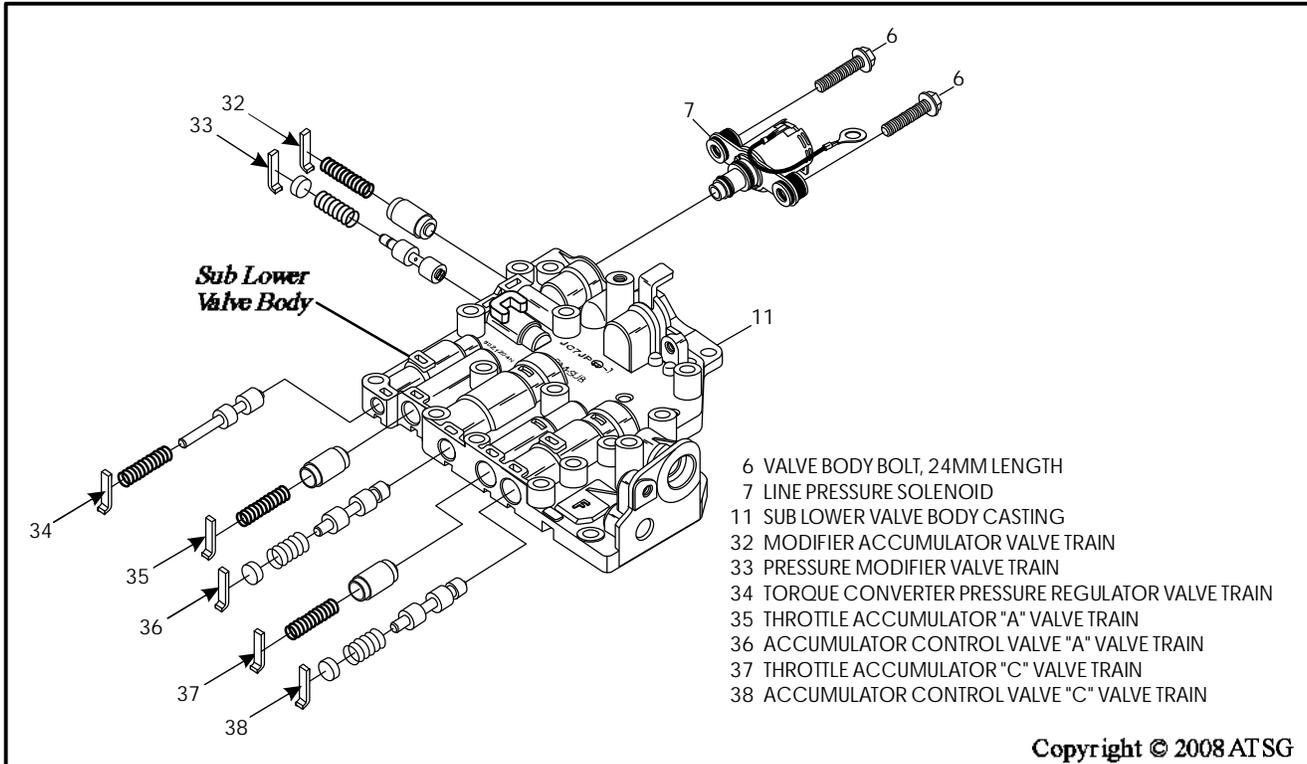

Figure 160
3. Starting with the sub lower valve body, shown in Figure 160, disassemble and place valves, springs, bore plugs and retainers in appropriate trays exactly as they were removed.
5. Assemble sub lower valve body parts **exactly** as shown in Figure 160, and lube with ATF as they are installed.
Note: Install the retainers exactly as shown in Figure 160, as they install in different directions through out the valve body.
7. Install new "O" rings, lube with ATF, and install **only** the pressure control solenoid, as shown in Figure 160. Torque bolts to 10 N·m (88 in.lb).